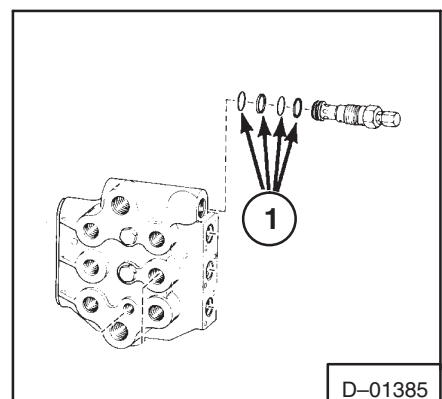

Fig. 2-6 Relief Valve
1. Install new O-rings and washers on the relief valve (Fig. 2-6, Item 1). Install the relief valve in the control valve and tighten.